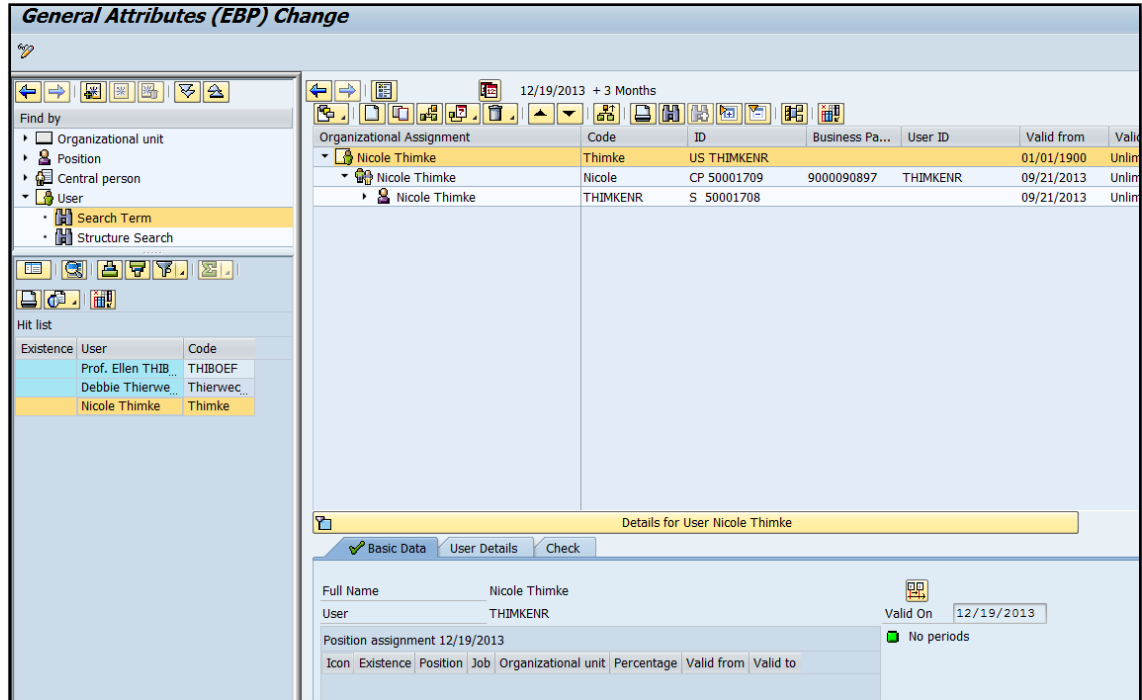

Figure 22: General attributes (EBP) Change (3)
Step 28: Once you double click on the user's name, the following screen will appear (see figure 22).